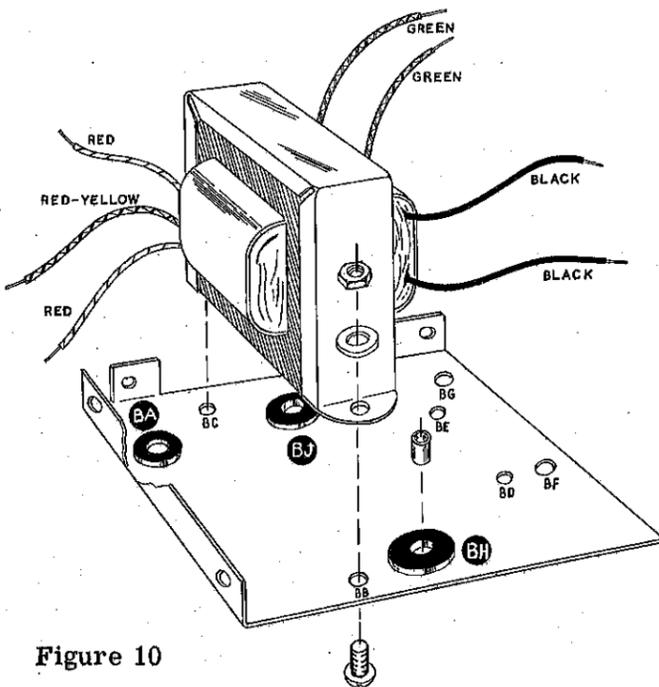

Figure 10
- (✓) Identify the left end bracket B, which is plain aluminum with bends on the bottom and one end only. See Figure 10. Install a 3/8" grommet at location BA.